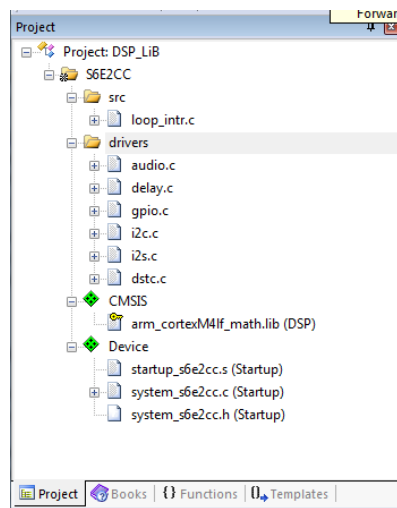

Figure 7: Project structure within Keil uVision.
2. Open the Vision 5 project `DSP_LiB` by double clicking on its icon in the `LAB_1` folder. You should see a project structure as shown in Figure 7. Note: If prompted to install a missing package, choose to install the package and wait for the Pack Installer to finish before proceeding.